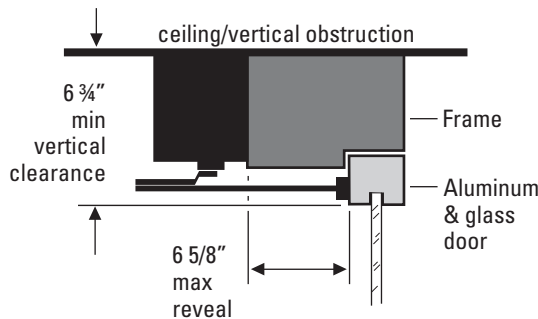

Figure 1.10 Side cut-away view of an aluminum and glass door showing the maximum reveal. Also this view shows the minimum vertical head clearance.
4. Make sure that a minimum clearance height of 6 3/4" (172 mm) from ceiling to door mounting surface is unobstructed. See Figure 1.10 on page 1-12.